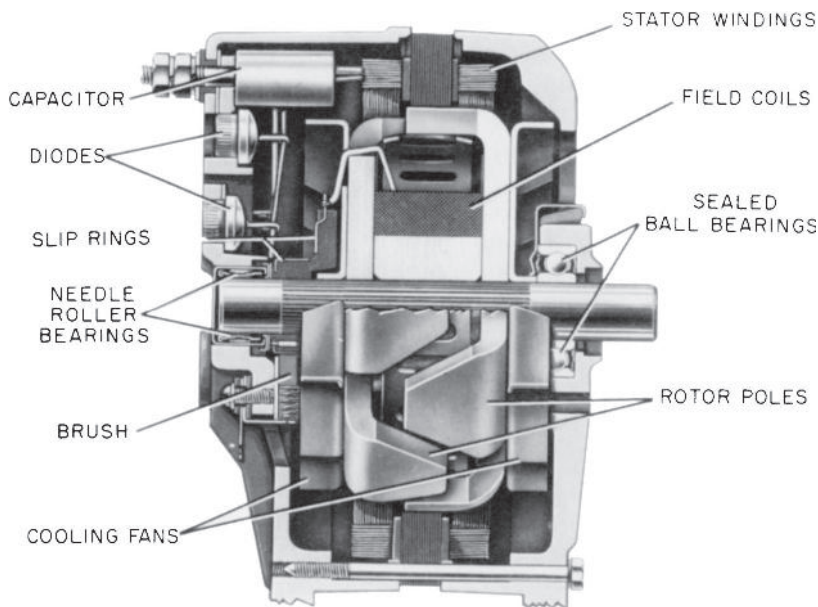

Fig. I-10 Automobile alternator.
- **Magnetism.** Electricity is produced when a magnet is moved past a piece of wire or a piece of wire is moved through a magnetic field. The result is the same. Motion, a magnetic field, and a piece of wire are needed to produce electricity. To date, magnetism is the most inexpensive way of producing electrical power. We use magnetism to produce electricity for homes and cars. An electric generator is found under the hood of every automobile. This device can produce great amounts of electrical energy. The electric generator is called an alternator because it generates alternating current (ac). AC flows first in one direction and then in the other. Direct current (dc) flows in one direction only (Fig. I-10).